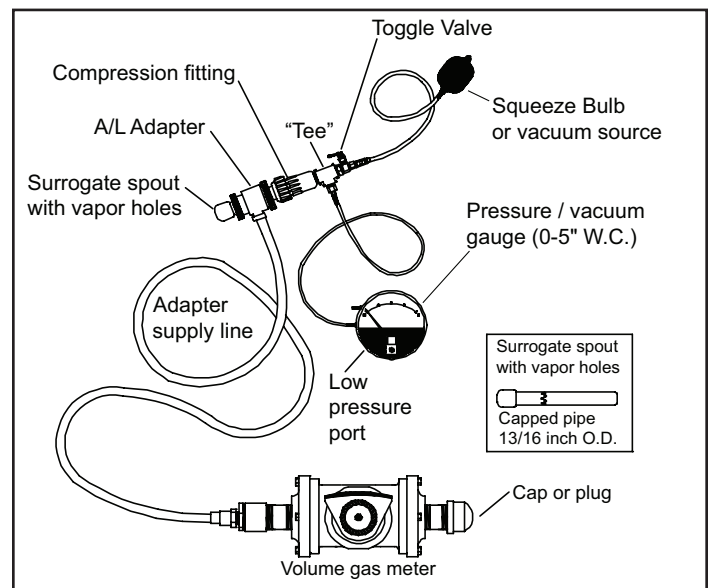

Figure 5: Air to Liquid Adapter Leak Test Assembly
5. Verify that the O-rings in the A/L adaptor, if applicable, are present and in good condition. O-rings with nicks, tears, or other deformations shall be replaced prior to the test. The O-rings shall be properly greased to ensure a vapor tight connection. Refer to the A/L adaptor manufacturer's instructions for recommendations. If the O-rings are lubricated before each test, the chance of an improper seal between the nozzle spout and the A/L adaptor is reduced. Conduct a pre-test leak check of the A/L adaptor by connecting the A/L adaptor to a surrogate spout as shown in Figure 5.